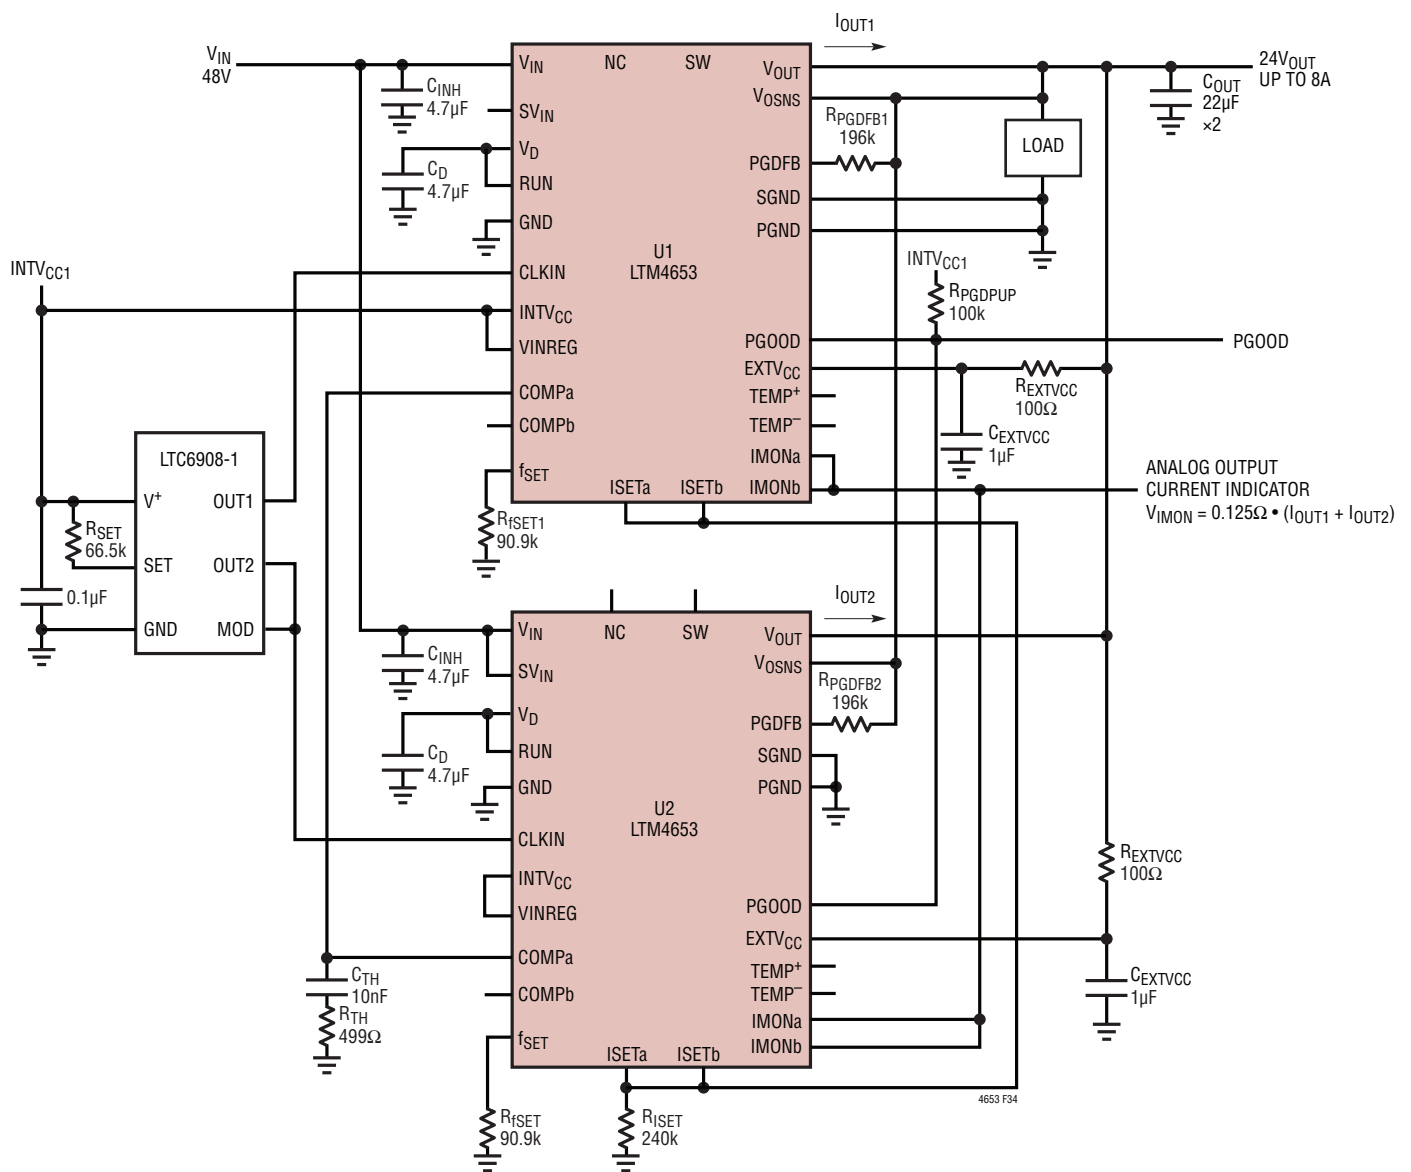

Figure 34. 24V Output at Up to 8A from 48V Input, 2-Phase Parallel with Analog Output Current Indicator
- For parallel module applications, connect the VOUT, VOSNS, RUN, ISETa, COMPa and PGOOD pins together as shown in Figure 34.